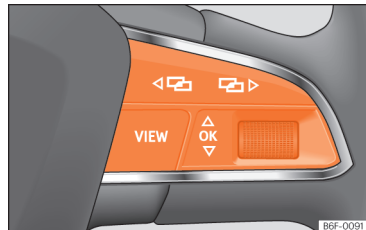

Fig. 114 Right side of multifunction steering wheel: buttons to the menus and informative indications on the instrument panel.
As long as a priority 1 »» page 104 warning is active, it will not be possible to access any menu. Some warnings can be confirmed and hidden with the button  of the multifunction steering wheel »» Fig. 114.
- If a message or vehicle symbol is displayed, press the button **OK** » Fig. 114; if necessary, several times.
- To change menus, use buttons **<** or **>** » Fig. 114.
- To open the menu or the information displayed, press the button **OK** » Fig. 114 or wait a few seconds until the menu or the informative display opens automatically.
- In the menu displayed, turn the right thumbwheel of the multifunction steering wheel » Fig. 114 until the desired option of the menu is highlighted. The option appears framed.
- Press the button **OK** » Fig. 114 to make the required modifications. A mark indicates that the system or function is activated.
Press the button **<** or **>** » Fig. 114.